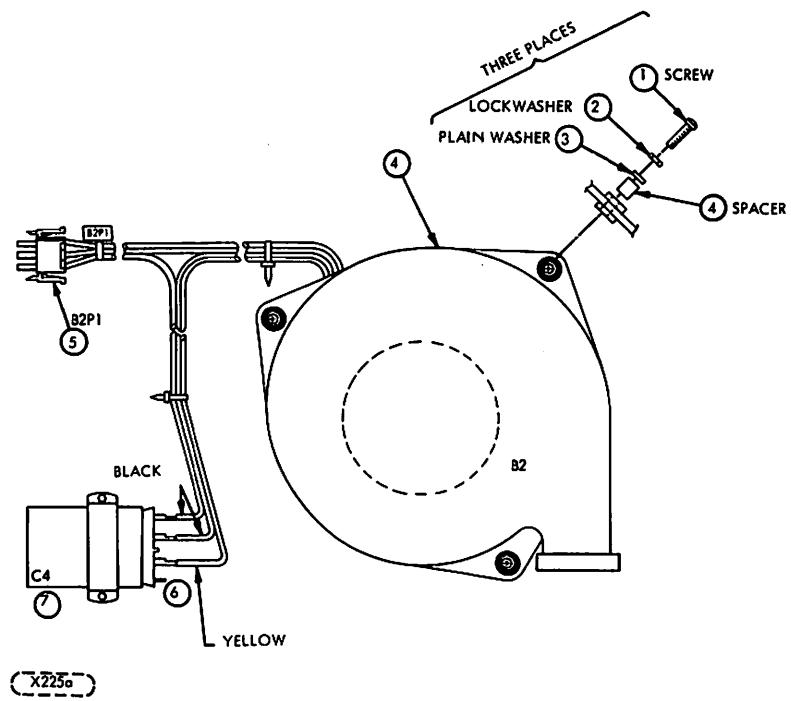

FIGURE 6-16. BLOWER ASSEMBLY
6. Remove screws and washers ①, ②, ③ and ④. See Figure 6-16.
7. Remove blower electrical connections ⑤ and ⑥ in Figure 6-16.
9. Install the replacement blower assembly in the unit. Orient the electrical lead wires as shown in Figure 6-16.
11. Connect the blower lead wires per Figure 6-16.